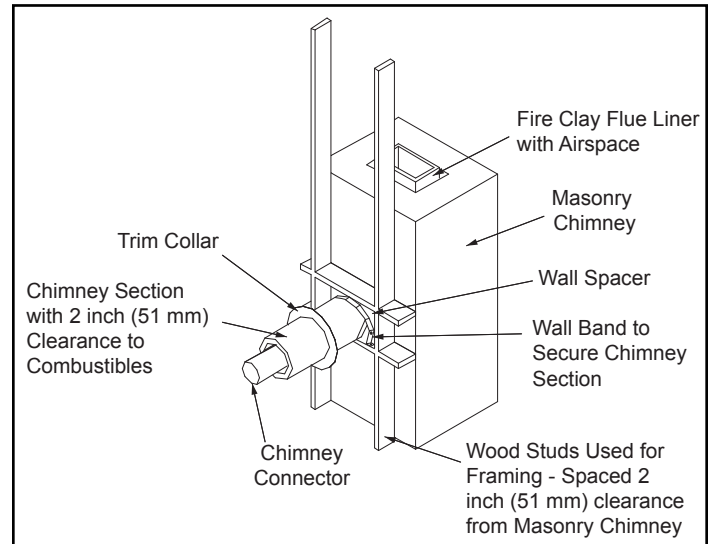

Figure 4.3
- Top of wall opening is a minimum of 13-1/2" (343 mm) from ceiling or 4-1/2" (114 mm) below minimum clearance specified by chimney connector manufacturer. NFPA 211 minimum vertical clearance of 18" (457mm) from chimney connector and ceiling or minimum recommended by chimney connector manufacturer. Figure 4.3
1. Open inside wall at proper height for the chimney connector to enter the masonry chimney. Figure 4.3